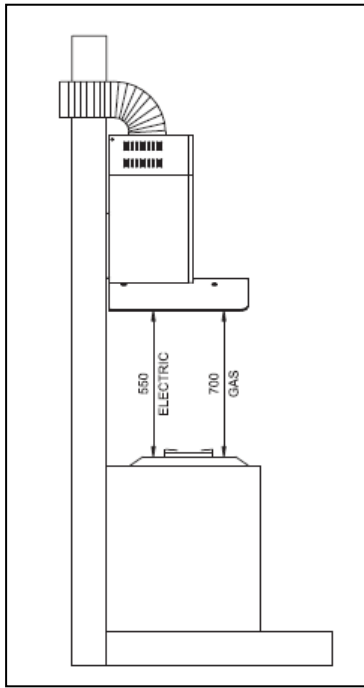

Fig. 1
- The extractor hood can be installed over gas and electric cook top. Minimum installation height from the bench top to the bottom of the hood is 700mm (gas range) and 550mm (electric range) (Fig. 1).